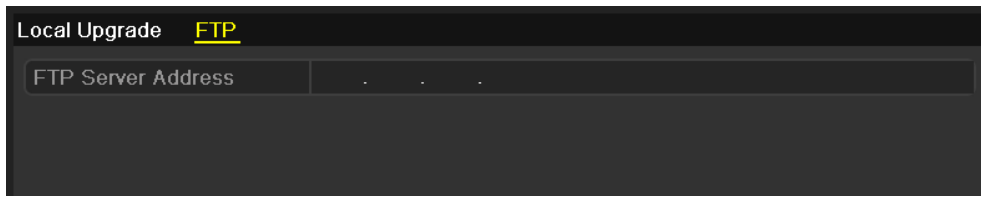

Figure 14. 8 FTP Upgrade Interface
2. Click the **FTP** tab to enter the local upgrade interface, as shown in Figure 14. 8.